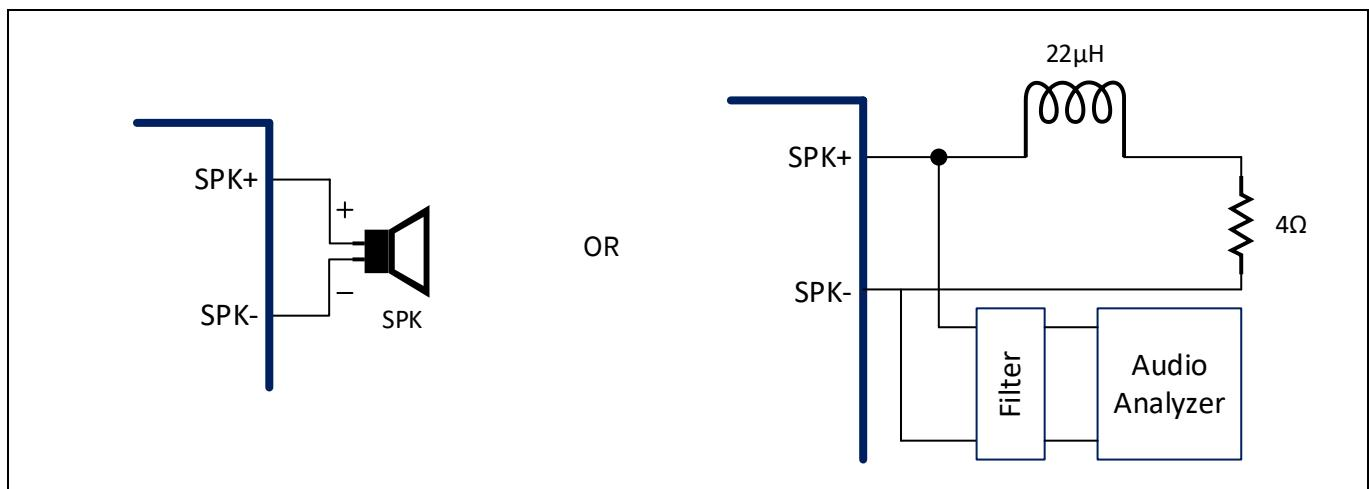

Figure 1 **Setup for “speaker test” or “datasheet spec test”**
- Loudspeaker and speaker wires, as shown in Figure 1
In addition, for datasheet spec testing, as shown in Figure 1: